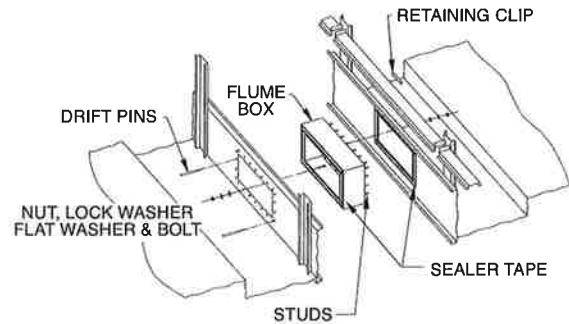

Figure 5 – Flume Assembly
2. Clean the flanges of the equalizer flume to remove any dirt, grease and moisture. Apply a layer of sealer tape on one side panel centered over the flume box holes as shown in Figure 5. Remove paper backing strip from the sealer tape.
6. Align the bolt holes in the equalizer flume and equalizer opening with drift pins while drawing the second bottom section against the first as shown in Figure 5.